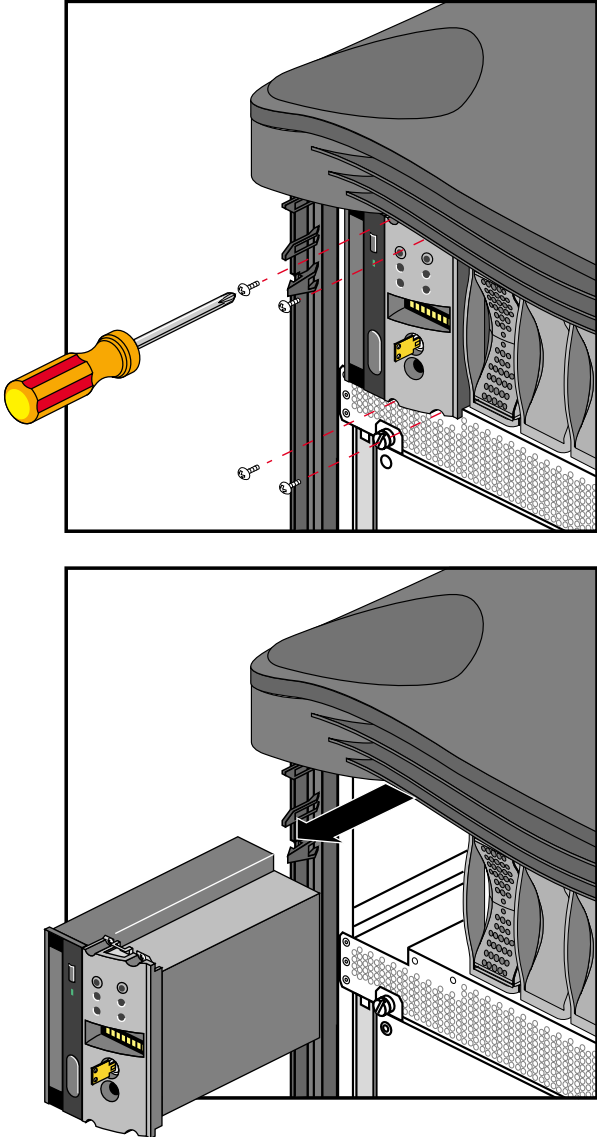

Figure 5-3 Install or Replace the MSC or CD-ROM Drive
4. Use a #1 Phillips-head screwdriver to loosen and remove the four screws that hold the assembly in place on the chassis, as shown in Figure 5-3.